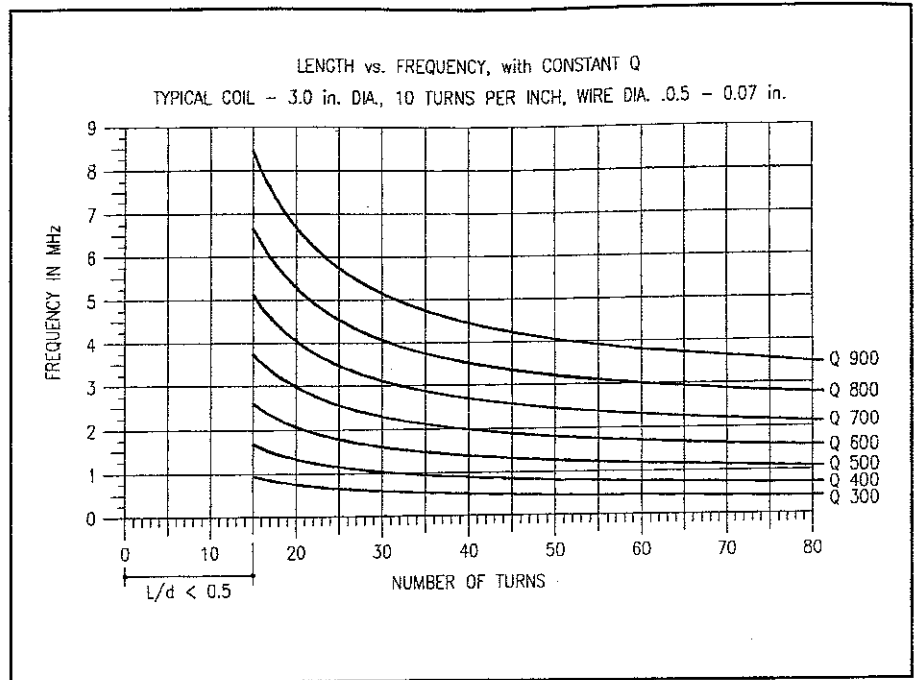

Fig. 6- Length vs. frequency, with a constant Q.
5. Q increases with coil length, rapidly when the L/d ratio is small, and very slowly when the L/d ratio is 1:1 or more (see fig. 6).
6. Q increases with frequency (fig. 6).